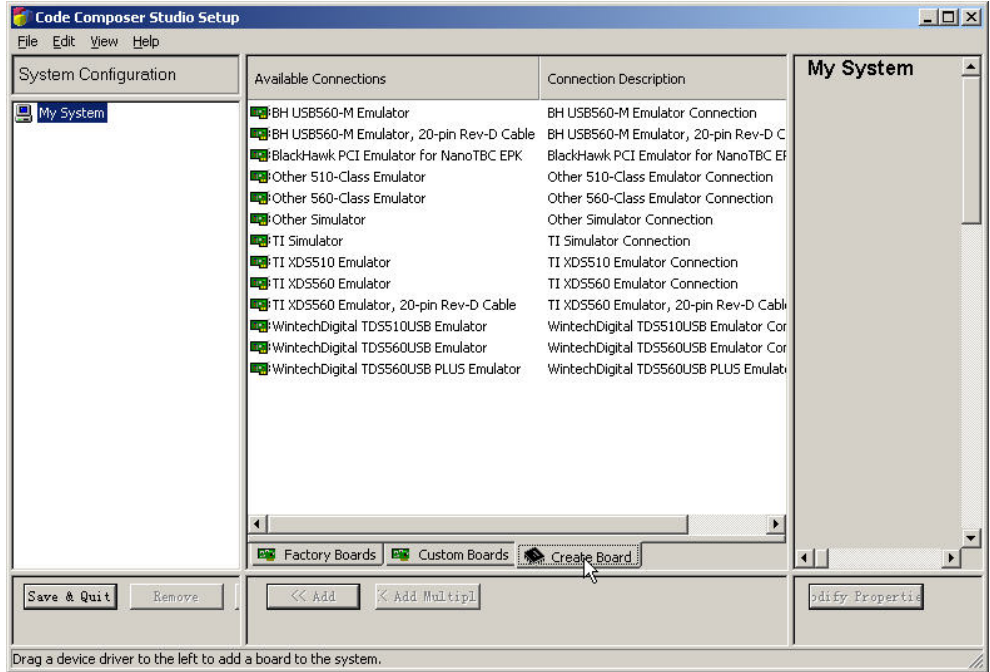
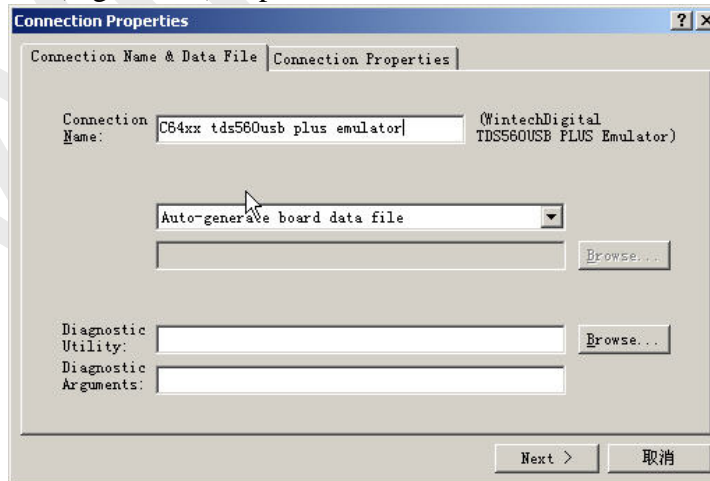

Figure C-2
Figure C-3
3. If the desired **TDS560USB PLUS Emulator** configuration was not found in the Available Configuration List, click on Create Board and Double click on “WintechDigital TDS560USB PLUS Emulator” (see Figure C-2). The “Board Properties” window will pop-up. (See Figure C-3)
4. On the “Board Properties” Window, select “Auto-generate board data file” (Figure C-3). Input a Connect Name.